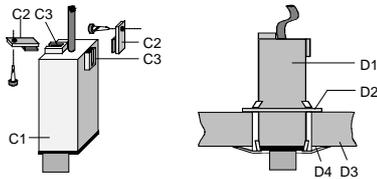

Figure 4: Mounting the receiver
### Mounting the receiver (Figure 4)
- The receiver of the brightness controller GE 254 alternatively can be fixed to a mounting support (see Figure 4).